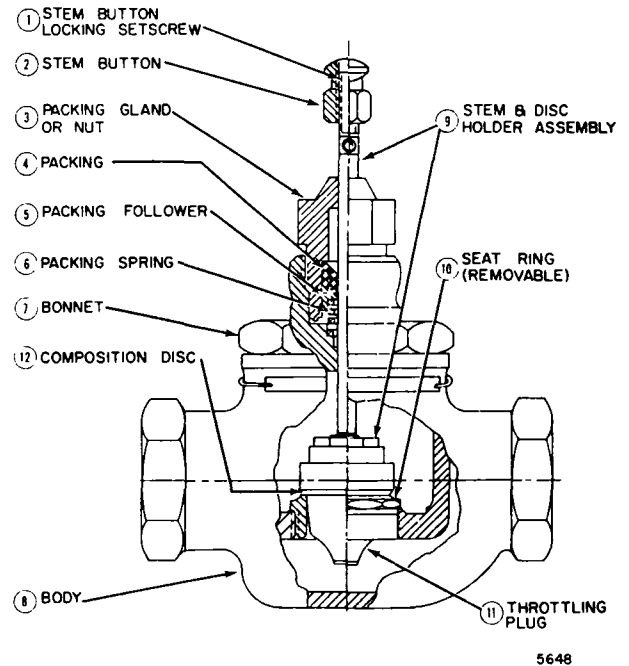

Fig 3 Cutaway of Typical V5011A Screwed Type Body
- a. Screwed Body Valves (V5011A and C)—Unscrew the bonnet and the stem and plug assembly can then be lifted out (Fig 3).